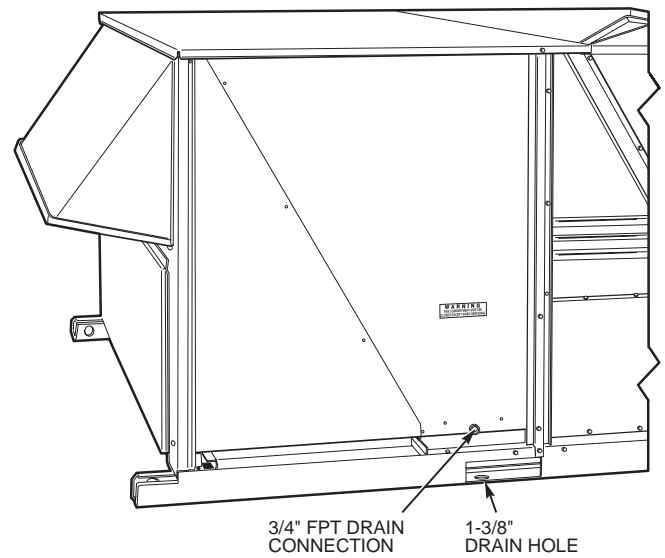
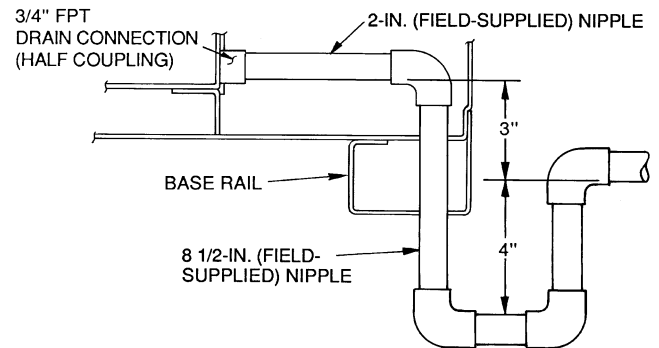

Fig. 11 — Condensate Drain Details (48TJ016 Shown)
Fig. 12 — Condensate Drain Piping Details
Step 6 — Trap Condensate Drain — See Fig. 11 for drain location. One 3/4-in. half coupling is provided inside unit evaporator section for condensate drain connection. An 8 1/2 in. x 3/4-in. diameter and 2-in. x 3/4-in. diameter pipe nipple, coupled to standard 3/4-in. diameter elbows, provides a straight path down through hole in unit base rail (see Fig. 12). A trap at least 4-in. deep must be used.